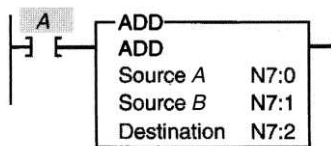

Figure 11-14 Logic rung for question 6.
6. The rung of Figure 11-14 is telling the processor to add the values stored in words (a) ____ store the sum in word (b) ____ and whenever (c) ____ is true. 6a. _____